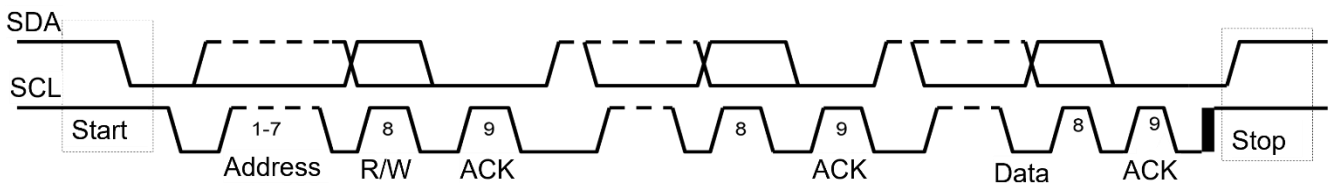

Figure 7: Complete Data Transfer
After the start command, a 7-bit slave address is sent, followed by the read/write (R/W) bit. A 0 represents a write transmission (W), while a 1 indicates a read request (R). Figure 7 shows a complete data transfer.